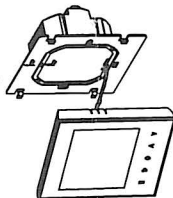

Fig 2
Step 2. Remove the mounting Plate. See Fig 2.